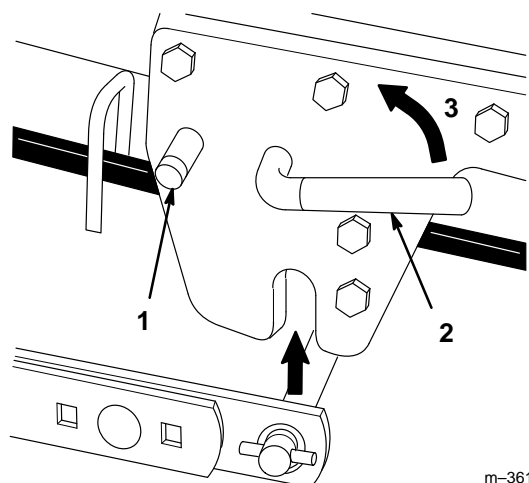

Figure 8
9. Turn the lever of the Attach-A-Matic™ counterclockwise to lock the mower to the tractor (Fig. 8).